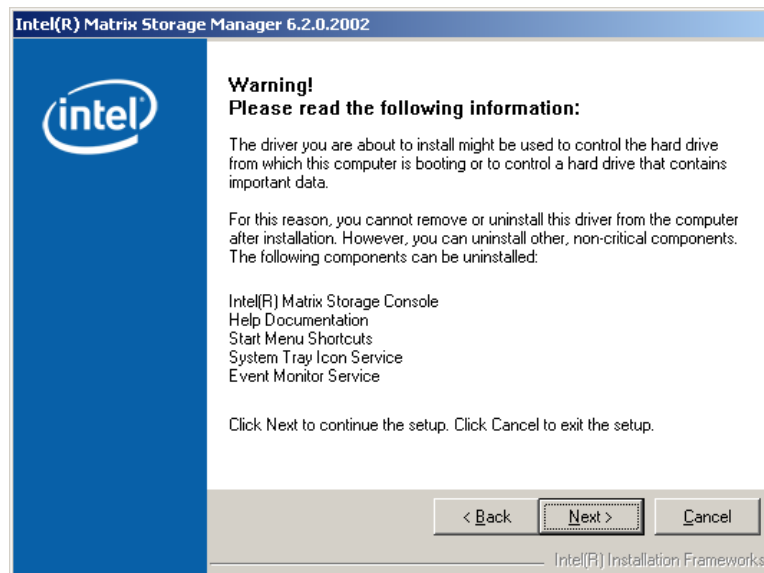

Figure 7-36: Matrix Storage Manager Warning Screen
Step 8: Click **NEXT** and a warning appears (**Figure 7-36**). Read the warning carefully and decide whether or not to continue the installation process.